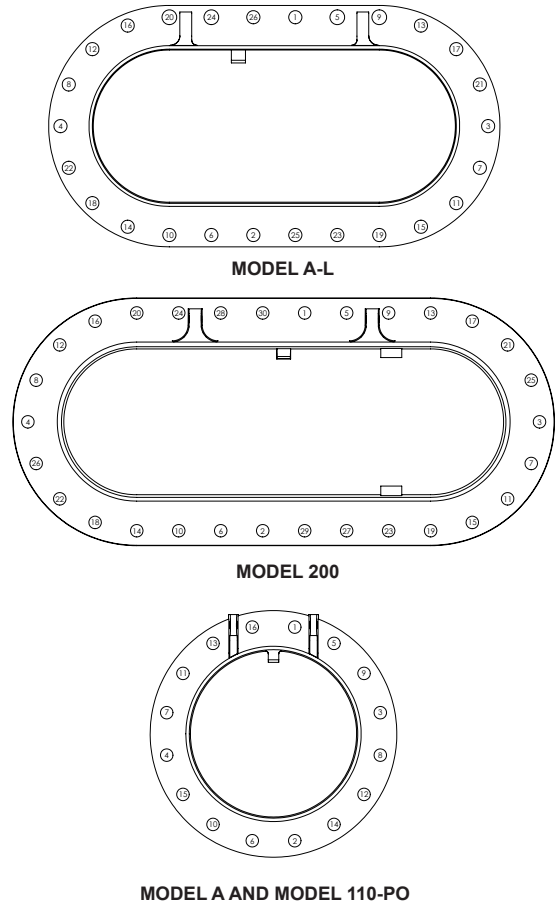

Figure 5. Dead Weight Hatch Torque Sequence
4. Using a socket wrench and torque wrench, tighten the bolts in the pattern that corresponds to the pattern shown in Figure 5.